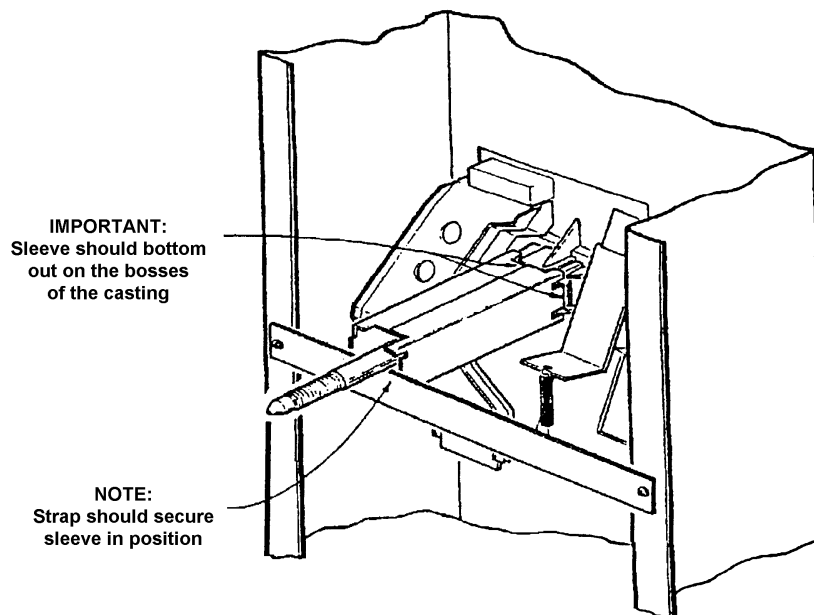

Figure 2
7. See figure 2 for installed view.